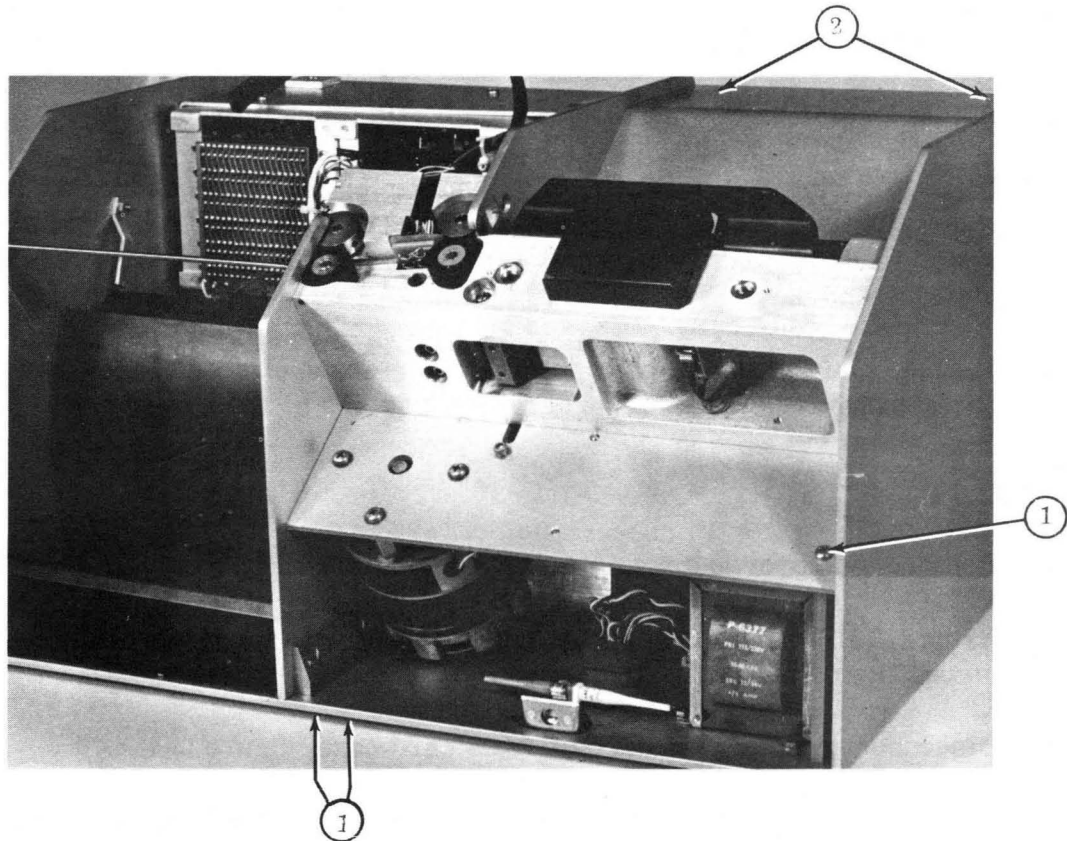

Figure 9-4. Front View, Main Mounting Plate Removal
- o. Using a Phillips screwdriver, remove three screws (8); one from main mounting plate, and two from under mainframe, figure 9-4.
- p. Using a flat blade screwdriver, remove two screws (9) from top of main mounting plate.